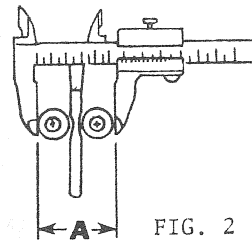

FIG. 2
2. MEASURE ACROSS ROLLERS WITH VERNIER CALIPER. FIG. 2